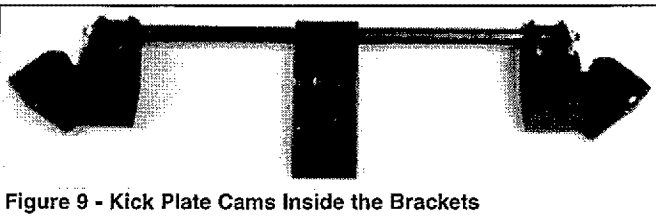

Figure 9 - Kick Plate Cams Inside the Brackets
- Rotate foot pedal bar so that kick plate cam is inside bracket (see Figure 9).